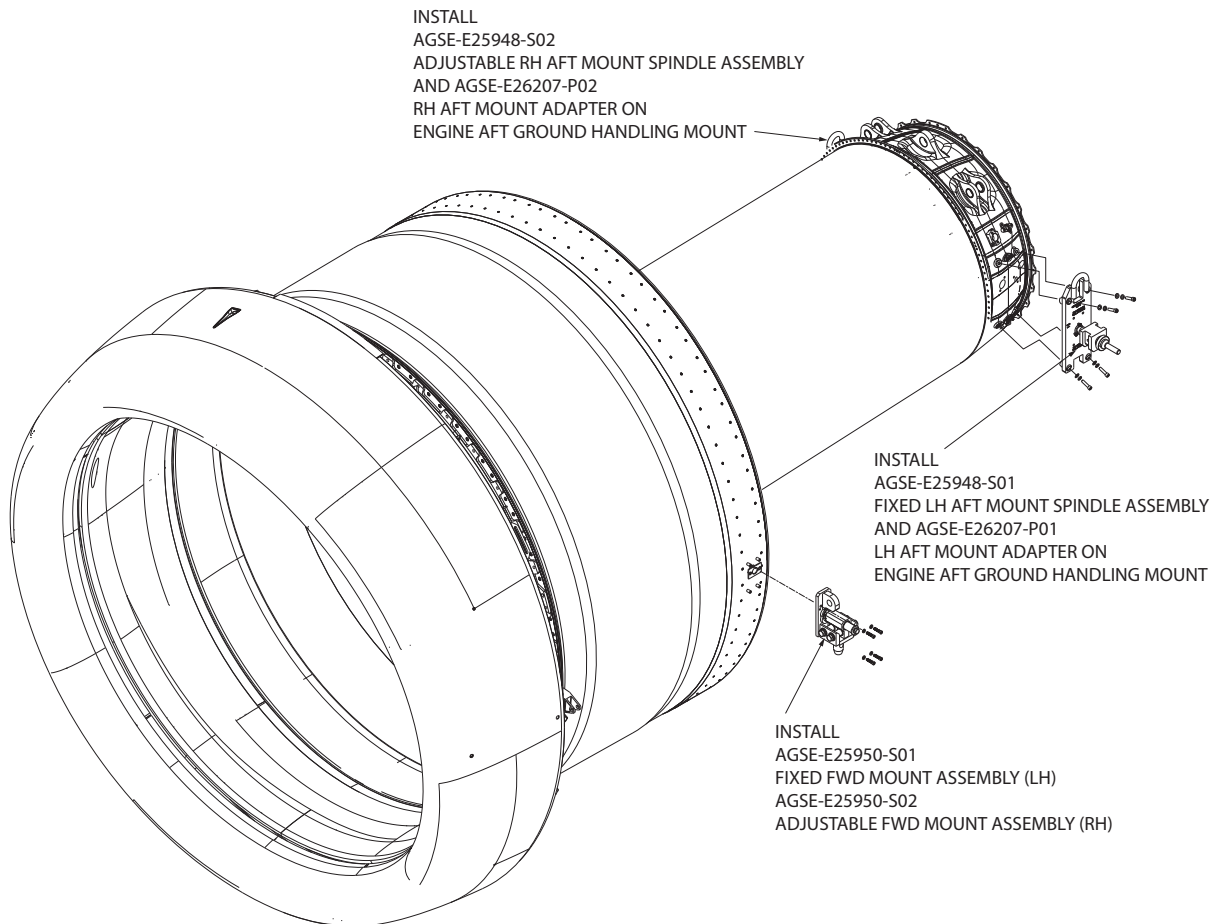

Figure 5.2-1
- 3) Remove the AGSE-E25950-S01 FWD mount adapter (LH) and AGSE-E25950-S02 FWD mount adapter (RH) from the AGSE-E26210-S01 storage box and install on the FWD engine ground handling mounts using eight (8) 5/16" hex head cap screws, eight (8) 5/16" lock washers and eight (8) 5/16" flat washers as shown in Illustration Figure 5.2-1.
- 4) Remove AGSE-E25948-S03 LH AFT mount spindle assembly, AGSE-E25948-S04 RH AFT mount spindle assembly, AGSE-E26207-P01 LH AFT mount adapter, and AGSE-E26207-P02 RH AFT mount adapter from the storage box and install on the engine AFT ground handling mounts using the hardware provided. (Illustration Figure 5.2-1).
- 8) Remove the AGSE-E25950-S01 FWD mount adapter (LH) and AGSE-E25950-S02 FWD mount adapter (RH) from the AGSE-E26210-S01 storage box and install on the FWD engine ground handling mounts using eight (8) 5/16” hex head cap screws, eight (8) 5/16” lock washers and eight (8) 5/16” flat washers as shown in Illustration Figure 5.2-1.
- 9) Remove AGSE-E25948-S01 LH AFT mount spindle assembly, AGSE-E25948-S02 RH AFT mount spindle assembly, AGSE-E26207-P01 LH AFT mount adapter, and AGSE-E26207-P02 RH AFT mount adapter from the storage box and install on the engine AFT ground handling mounts using the hardware provided. (Illustration Figure 5.2-1).